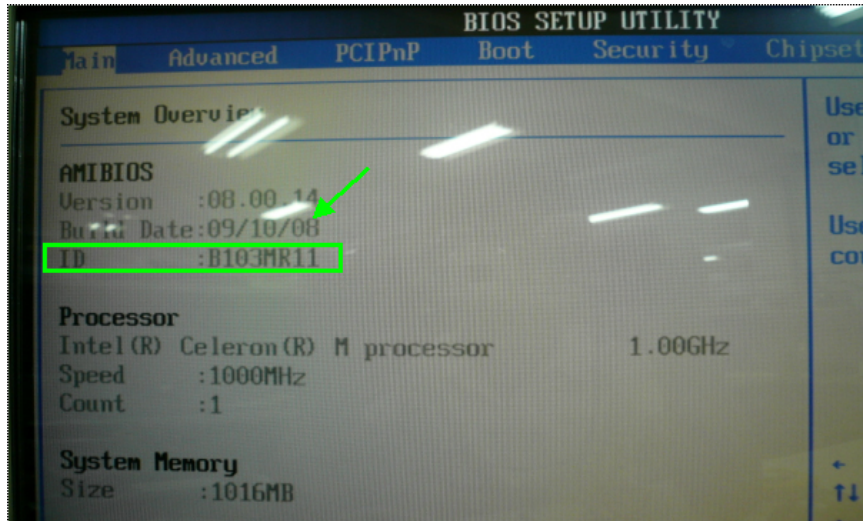

Figure 6-23: BIOS Main Menu – Updated BIOS Version (MR11)
**Step 4:** Restart the system and check the BIOS menu. The BIOS version has been changed to MR11 (Figure 6-23).